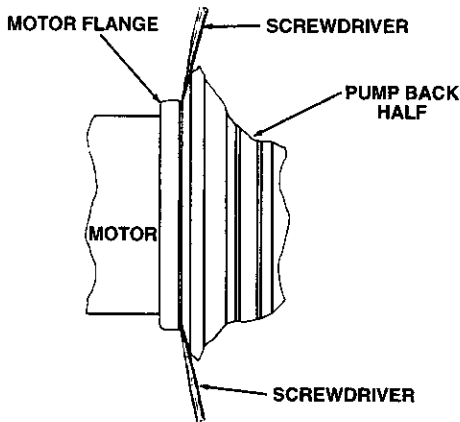

Figure 7
See Figures 7 & 8.
- J. Remount diffuser on seal plate. Be sure diffuser is right side up as follows (see Figures 7 and 8).